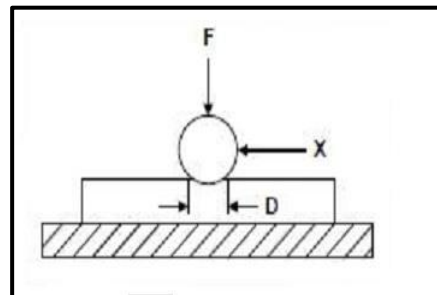

FIGURE 4.7
- D fluidity of the material (1)
- 4.7 What does the symbol 'X' denote in the Brinell hardness test shown in FIGURE 4.7 below?